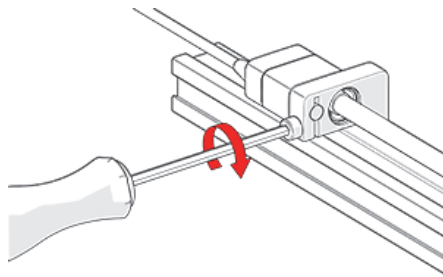

Figure 3-39 Tighten clamp screw
3. Tighten the 3 mm clamp screw on the index encoder support bracket (see Figure 3-39 on page 62).